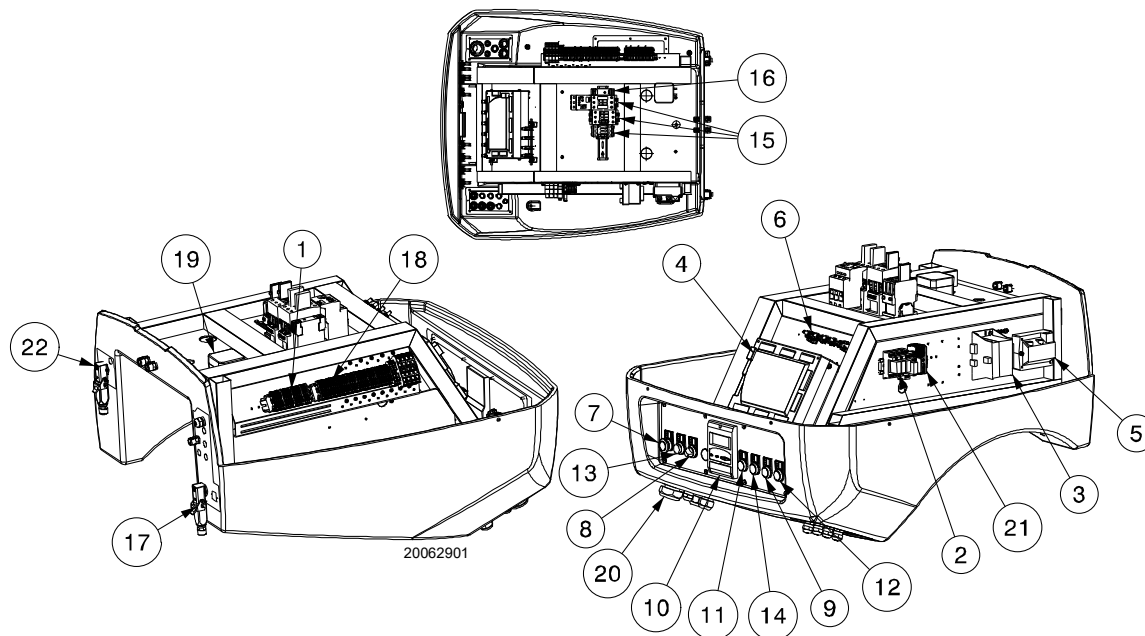

Fig. 5
- **Flame control lockout:** if the push-button 13)(Fig. 5) (**red led**), it indicates that the burner is in lockout. release by pressing the push-button 13)(Fig. 5).